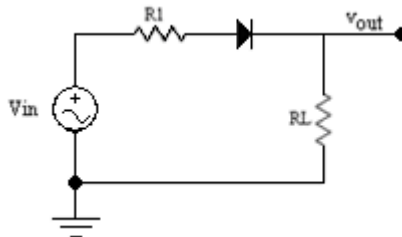

Figure 6.2
2. Calculate  $v_{OUT}$  in Figure 6.2, with  $V_{in} = 10 V_{pp}$  with a frequency of 1 kHz,  $R_1 = 100 \Omega$ ,  $D_1 = 1N4001$ ,  $R_L = 680 \Omega$ . Also, show a computer simulation.
2. Construct the circuit of Figure 6.2; measure  $V_{IN}$  and  $v_{out}$  using the oscilloscope.